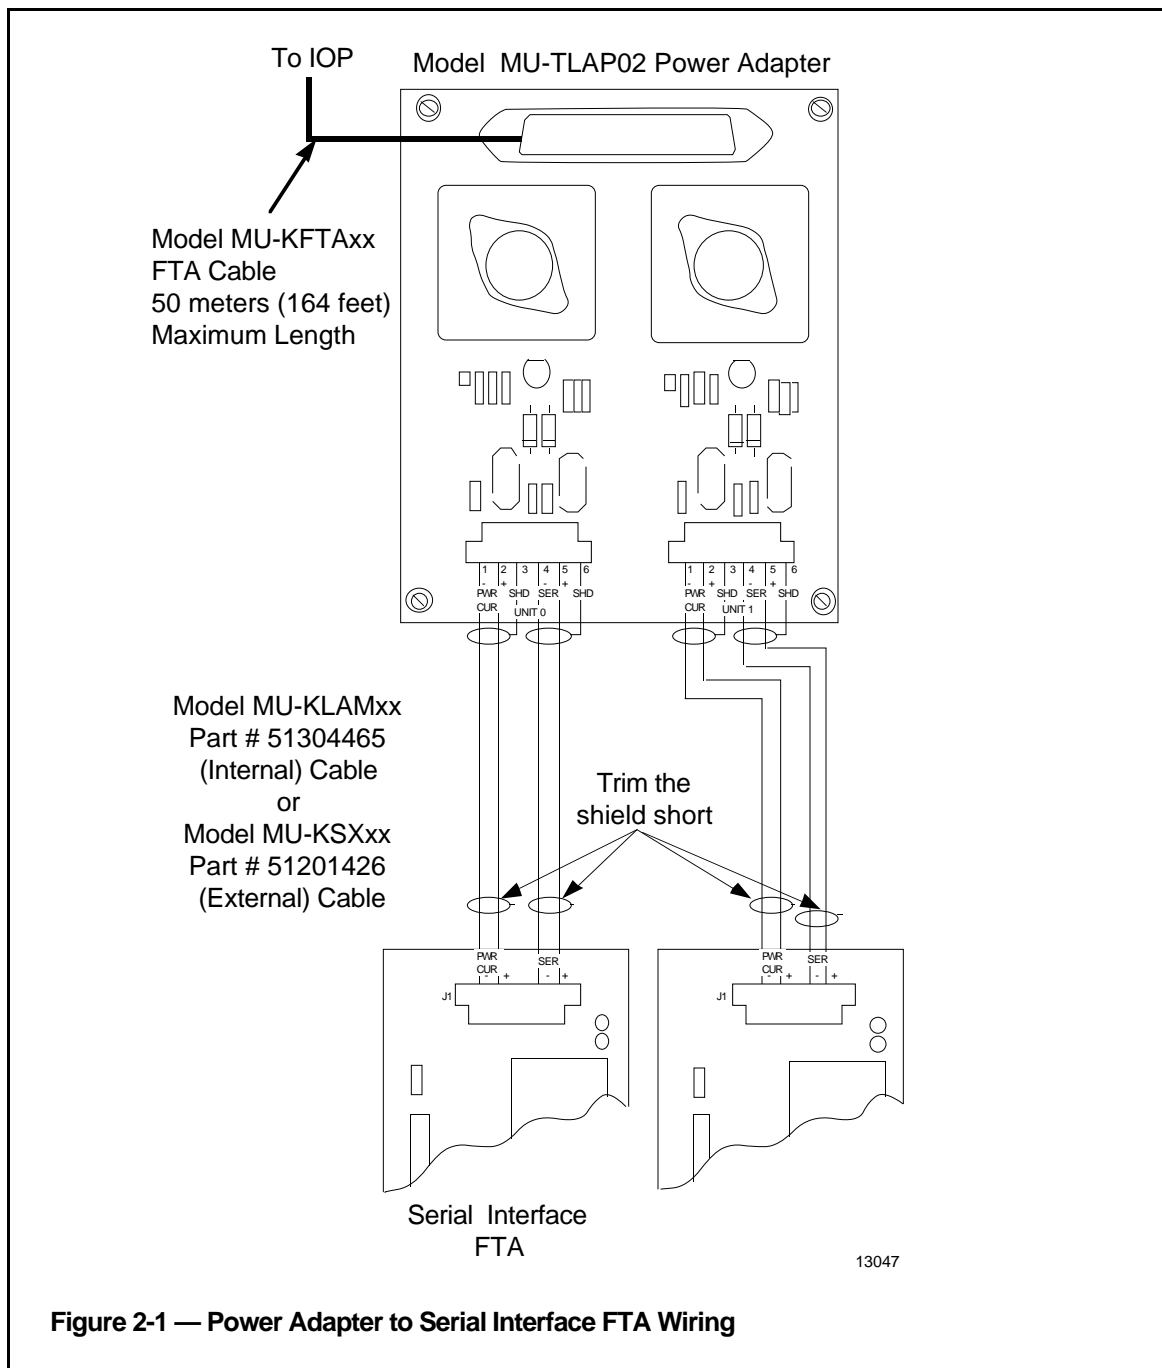
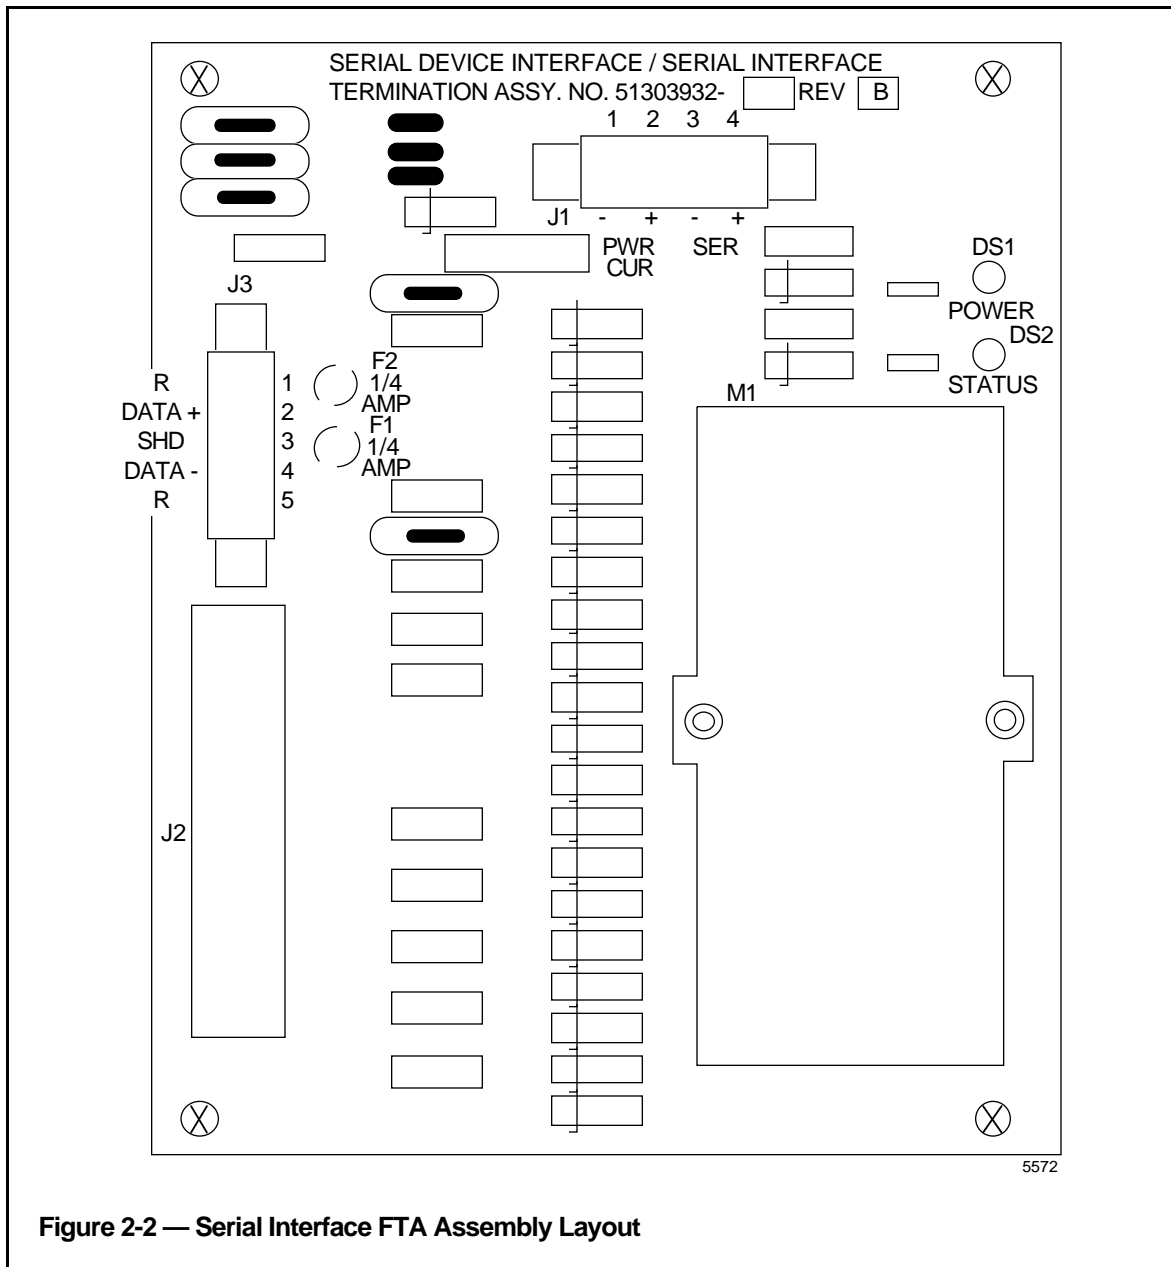

Figure 2-1 — Power Adapter to Serial Interface FTA Wiring
Figure 2-2 — Serial Interface FTA Assembly Layout
The model MU-TLAP02 Power Adapter is the same size as an A-size (6-inch) FTA and is installed on a standard FTA Mounting Channel. The Power Adapter to IOP connection is made using a model MU-KFTAxx cable (the suffix “xx” references the length of the cable in meters), up to 50 meters (164 feet) in length as shown in Figure 2-1.
The Serial Interface FTA to the Power Adapter connection is made using Honeywell recommended internal or external cable with stripped wire ends. The cable must have two individually shielded, twisted pair wires. The shield wires are connected to ground at the Power Adapter end only. The wire connections are made using compression terminals in a 6-pin connector at the Power Adapter end and a 4-pin connector at the FTA end as shown in Figure 2-1. The Serial Interface FTA's wiring to the Power Adapter is defined in Table 2-1. A detail of the Serial Interface FTA is shown in Figure 2-2.
The EIA-232 interface connection to the device is through the DB-25 type connector, J2, on the FTA (shown in Figure 2-2). Table 2-2 lists the DB-25 pin connections used. Since individual device connection configurations may vary, note to make sure that the FTA Transmit Data pin (2) connects to the Modbus device Receive pin and that the FTA Receive pin (3) connects to the Modbus device Transmit pin.
The Serial Interface FTA EIA-422/485 (RS-422/485) is provided by a 5-pin compression terminal connector, J3 on the FTA (as shown in Figure 2-2). Signal and ground assignments are listed in Table 2-3. The following guidelines apply for the interface:
- Two 1/4 A fuses, F1 and F2, protect the FTA from excessive current on the data lines. See the Serial Device Interface FTA layout illustration, Figure 2-2.
The interface connection to the device is through the DB-25 type connector, J2, on the FTA (as shown in Figure 2-2). Table 2-2 lists the standard EIA-232 DB-25 pin connections (see also the cable specifications for Allen-Bradley devices in subsection 2.7.1). The EIA-232 interface cable should not exceed 15 meters (50 feet) in length.